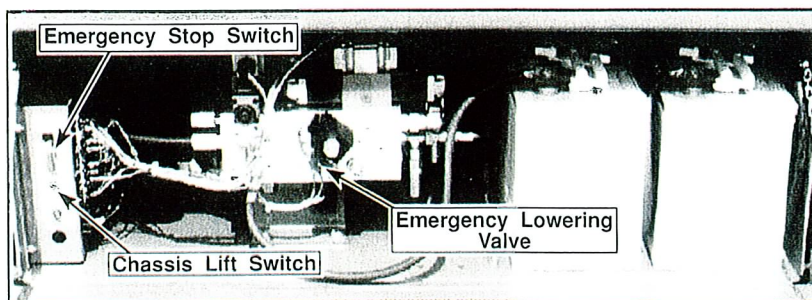

Figure 1: Chassis Control Module, with Domestic Control Panel
9. Turn Chassis and Platform Emergency Stop Switch ON (Figure 1 or 2). Either open the switch guard and push the switch toward the guard **OR** turn the button clockwise.
11. Push Chassis Lift Switch (Figure 1 or 2) to **UP** position and fully elevate platform.
14. Open the Chassis Emergency Lowering Valve (Figure 1) by turning knob counterclockwise to check for proper operation. Once the platform is fully lowered, close the valve by turning knob clockwise.
Ask a person on the ground to open the Emergency Lowering Valve to lower the platform. This valve is located through the cutout in the Chassis Module cover (See Figure 1) on the left hand side of the chassis.